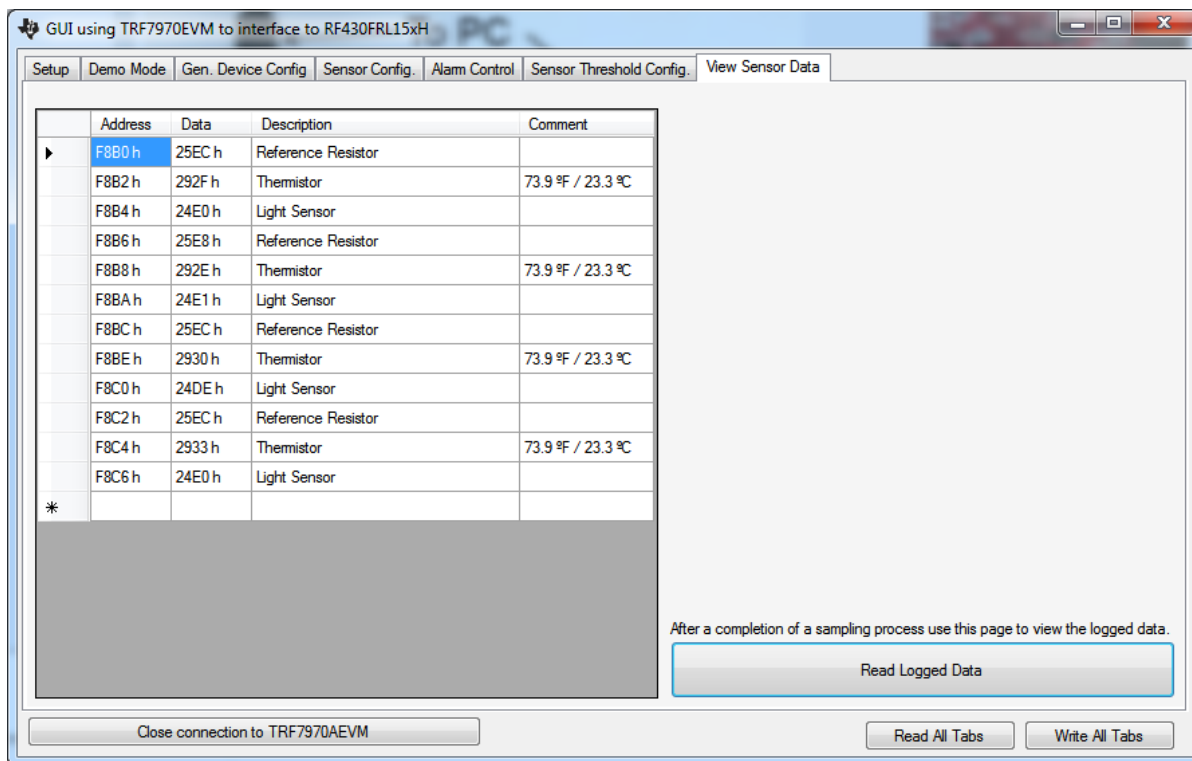

Figure 18. Custom View Data
16. When data is available, go to the "View Sensor Data" tab and click the "Read Logged Data" button. The GUI reads the logged data from the EVM and displays it (see Figure 18). This logged data is not designed to be human-readable. However, one use case of this function is to show the correlation and order of data to the sensor that took that data. In the logged data memory, the sensor that took that sample is not given and must be determined based on the configuration of the settings. However, the GUI shows which sensor is sampled and the expected order.